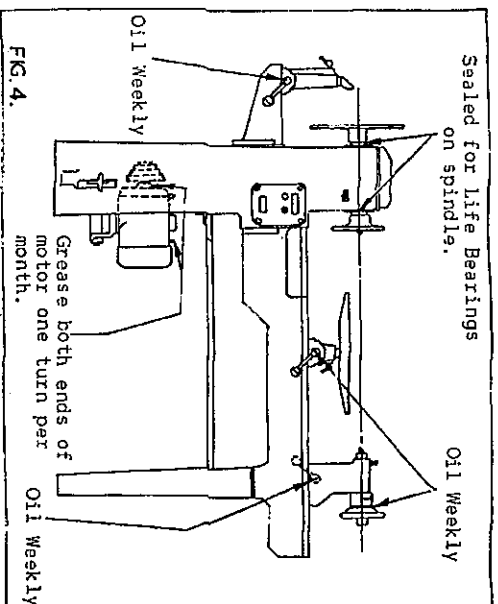

FIG. 4.
See Fig. 4 for lubrication instructions. It is advisable to keep all bright parts covered with a thin film of oil to prevent rusting. The bed should also be kept clear of any chippings for ease of operation of the toolrest and the tailstock.
3. Slacken socket head grubscREW "A" securing the spindle adaptor to the spindle, as shown in Fig. 4.